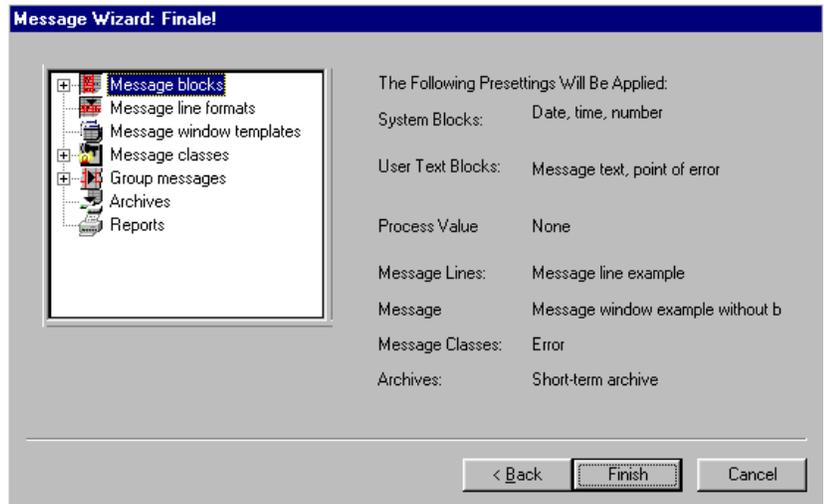

Figure 4.3f WinCC Project "QckStart"; The Message Wizard
7. The last screen is the Final screen and here all you do is click "Finish". View Figure 4.3f for reference.